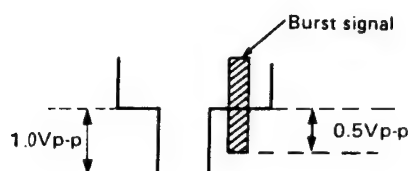

Figure 65.
2. Connect an oscilloscope to pin ① of IG connector, and adjust the core belonging to the replaced part so that the burst level of video signal is equal to 1/2 of the horizontal sync level. See Fig. 65.
Turn R1531 to the position where the waveform of horizontal sync signal shown in Fig. 65 begins to contract.